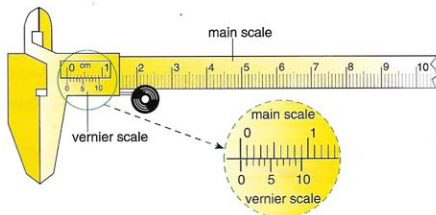

Fig. 2.5 To check for zero error
- Step 1** Close the jaws and check that the zero marking on the main scale is in line with the zero marking on the vernier scale. If the two zero markings are in line, there is no zero error (see Fig. 2.5).